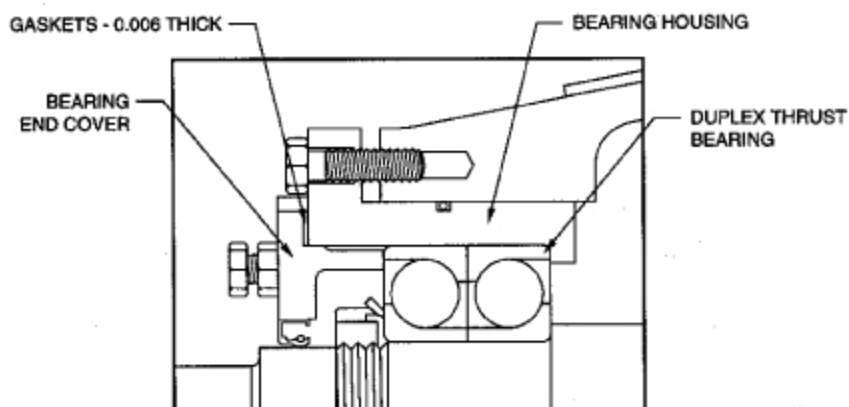

FIGURE 5
12. Bearing end play may be determined at this point as follows: Clamp dial indicator to the pump so that the button rests against the end of the shaft. Push the shaft back and forth as far as possible. Total end play must be at least 0.001" and not more than 0.008". If end play is less than 0.001" add coupling end bearing end cover gaskets made from 0.006" thick manila paper. If end play is greater than 0.008" remove gaskets. Because of matching tolerances, duplex thrust bearings may vary in width by up to 0.030". A correctly assembled pump may require as few as one, or as many as three 0.006" thick gaskets. Refer to Figure 5.